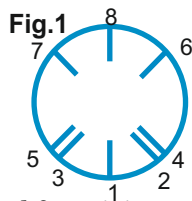

Fig.1
In the case of an unplanned concrete mixer stop with filled tank, set the steering wheel to position (1) Figure 1 and only then initiate motor start.
For cleaning the inner surface of the tank you have to turn on the concrete mixer and set it in position 5 or 4 Fig.1. In the tank add water and a couple of shovels of gravel. After 5 min. you can fully release the tank from water and gravel and install it in position 8.